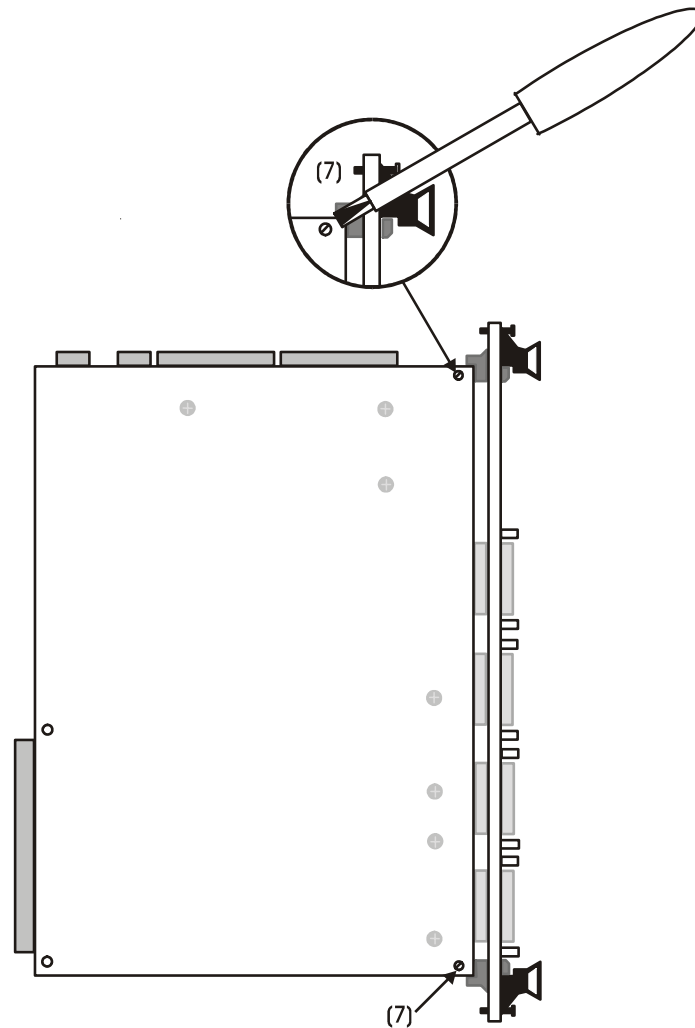

Fig. 22: View on the solder side of the basic module
- Detach the front panel from the PCB. To do so, unscrew both screws (7) with a screwdriver (refer to Fig. 22).